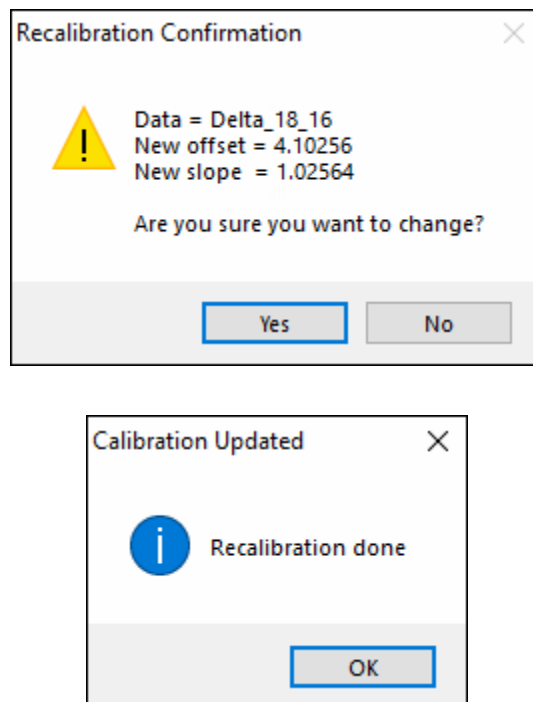

Figure 58: Confirmation Windows
9. Review the values in the window (Figure 58), and click **YES** to confirm, then **OK** to continue.